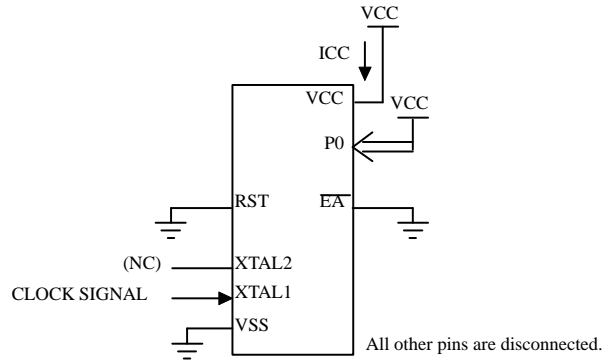
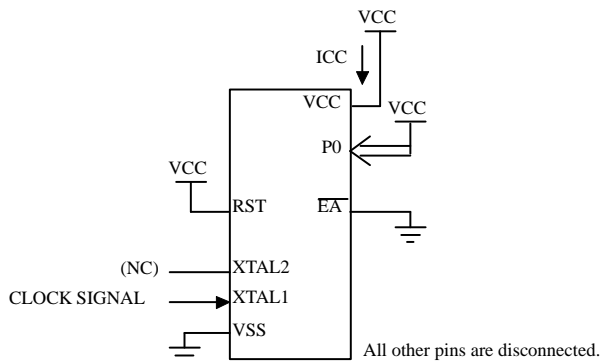

Figure 20. ICC Test Condition, Idle Mode.
Figure 19. ICC Test Condition, Active Mode.
1. ICC is measured with all output pins disconnected; XTAL1 driven with TCLCH, TCHCL = 5 ns (see Figure 20.), VIL = VSS + 0.5V, VIH = VCC - 0.5V; XTAL2 N.C.; EA = RST = Port 0 = VCC. ICC would be slightly higher if a crystal oscillator used (see Figure 19.).
2. Idle ICC is measured with all output pins disconnected; XTAL1 driven with TCLCH, TCHCL = 5ns, VIL = VSS + 0.5V, VIH = VCC-0.5V; XTAL2 N.C.; Port 0 = VCC; EA = RST = VSS (see Figure 20.).